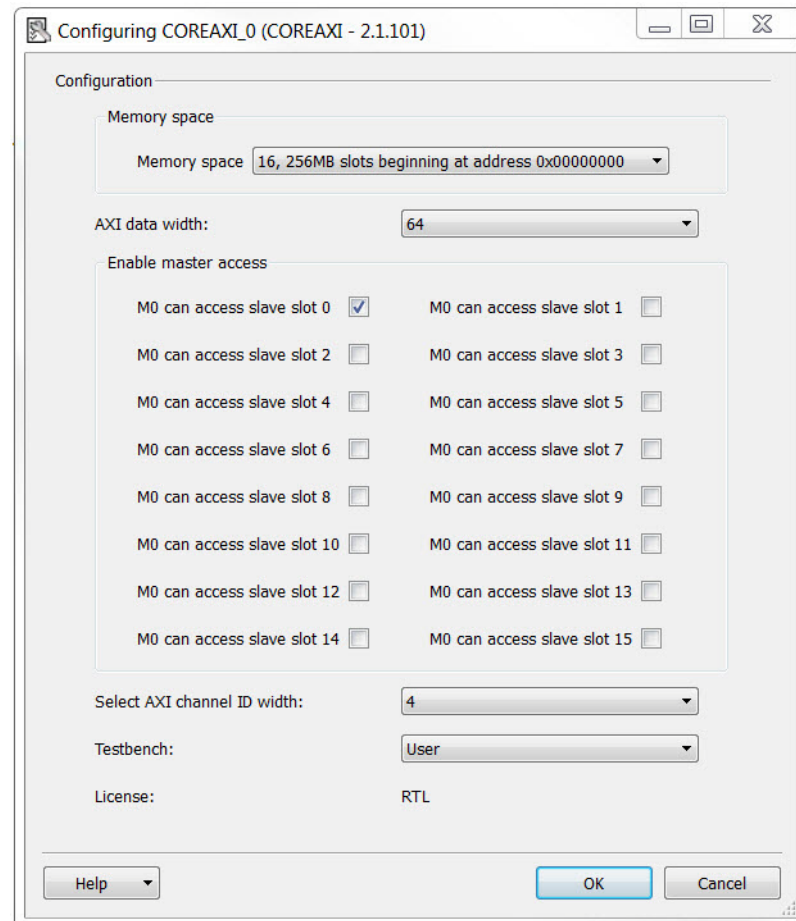

Figure 4-2 • CoreAXI Configuration - SMC_FIC Mode
1. Instantiate and configure the CoreAXI such that the master slot M0 is enabled for the slave slot S0, as shown in Figure 4-2. Since you are addressing an external memory via a soft memory controller, your slot size selection should match the amount of external memory space that you plan on addressing from the Cortex-M3 processor or any master writing to that external memory via the MSS DDR bridge.
2. Enable the slots that you are using for your application (Figure 5-5). Best practice is to use the M1 to slot accesses as shown in Figure 4-2 on page 15.